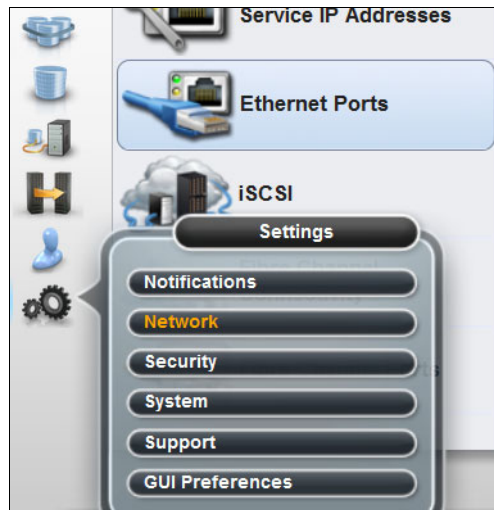

Figure 7-62 Step one to configure VLANs on an IBM Storwize storage system
1. Click **Settings** → **Network** → **Ethernet Ports**, as shown in Figure 7-62.